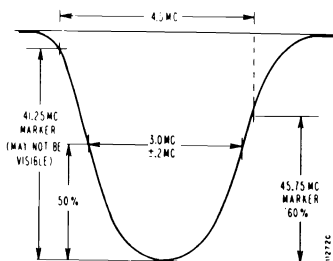

Fig. 3 IF CURVE
5. The IF curve now obtained should be checked against the ideal response curve, see figure 3. Maintain sweep output at 3V PP as alignment progresses. Keep markers low. A reduction in sweep output should reduce curve amplitude without appreciably altering the shape of the response curve.
8. Disconnect generator output leads from grid of the first I-F amplifier and couple them to the mixer tube (V-14) of the VHF tuner, using the signal injection shim described below. If this is impractical, connect the generator output leads to the I-F mixer point on the tuner, using the coupling network shown in Fig. 3.